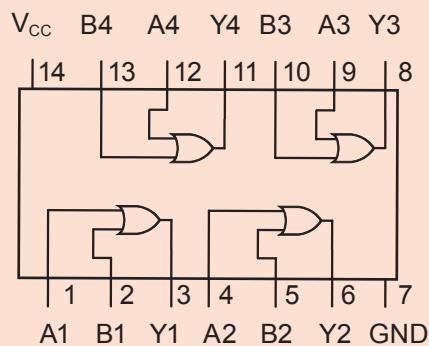

Figure 11.24 74LS32 IC pin connection diagram
3. The pin connection diagram of the 74LS32 quad 2-input OR gates IC is shown in Figure 11.24. Identify three pins that can be used to perform an OR operation.